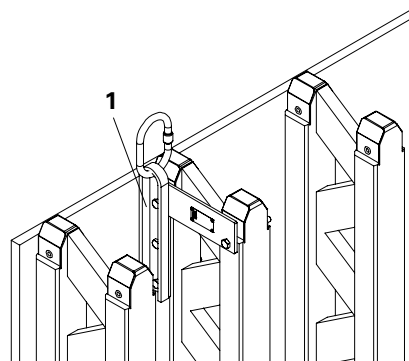

Fig. 11
6. Repeat action steps one to five on the left side with the Crane Eye 24 right (1). (Fig. 11)